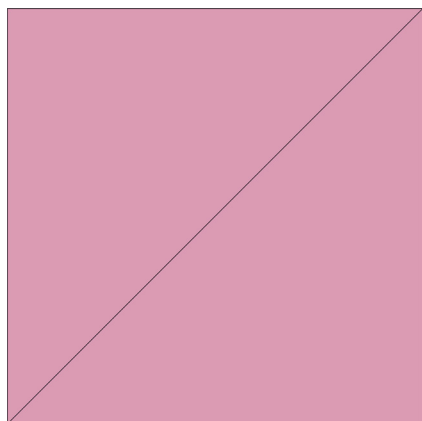

Figure 2
1. Use two Fabric B and two Fabric C 7" squares. Draw a diagonal line across the Fabric B squares. (Figure 2)